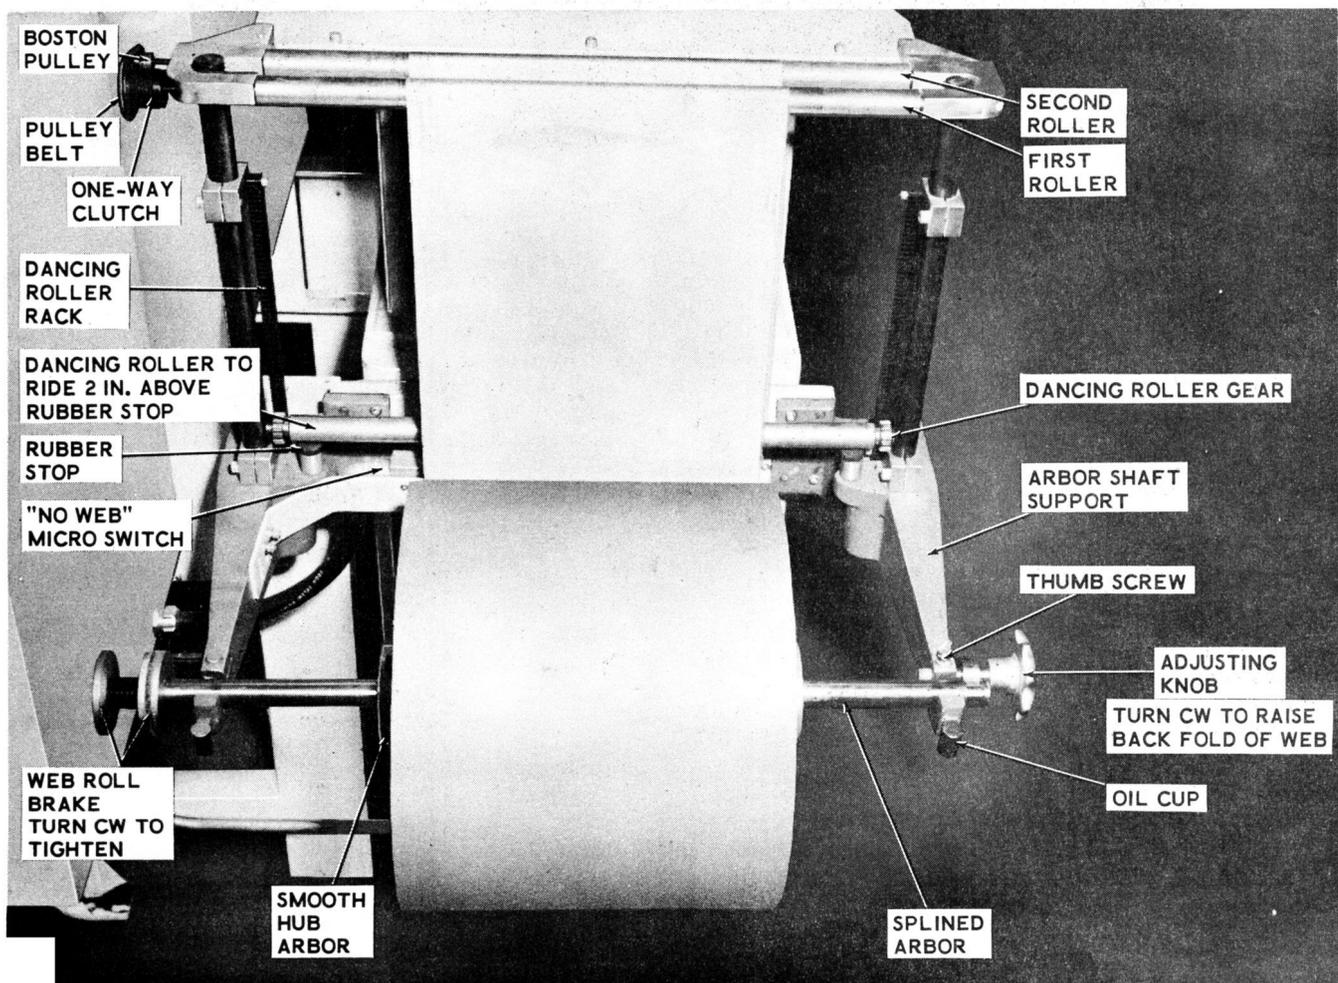
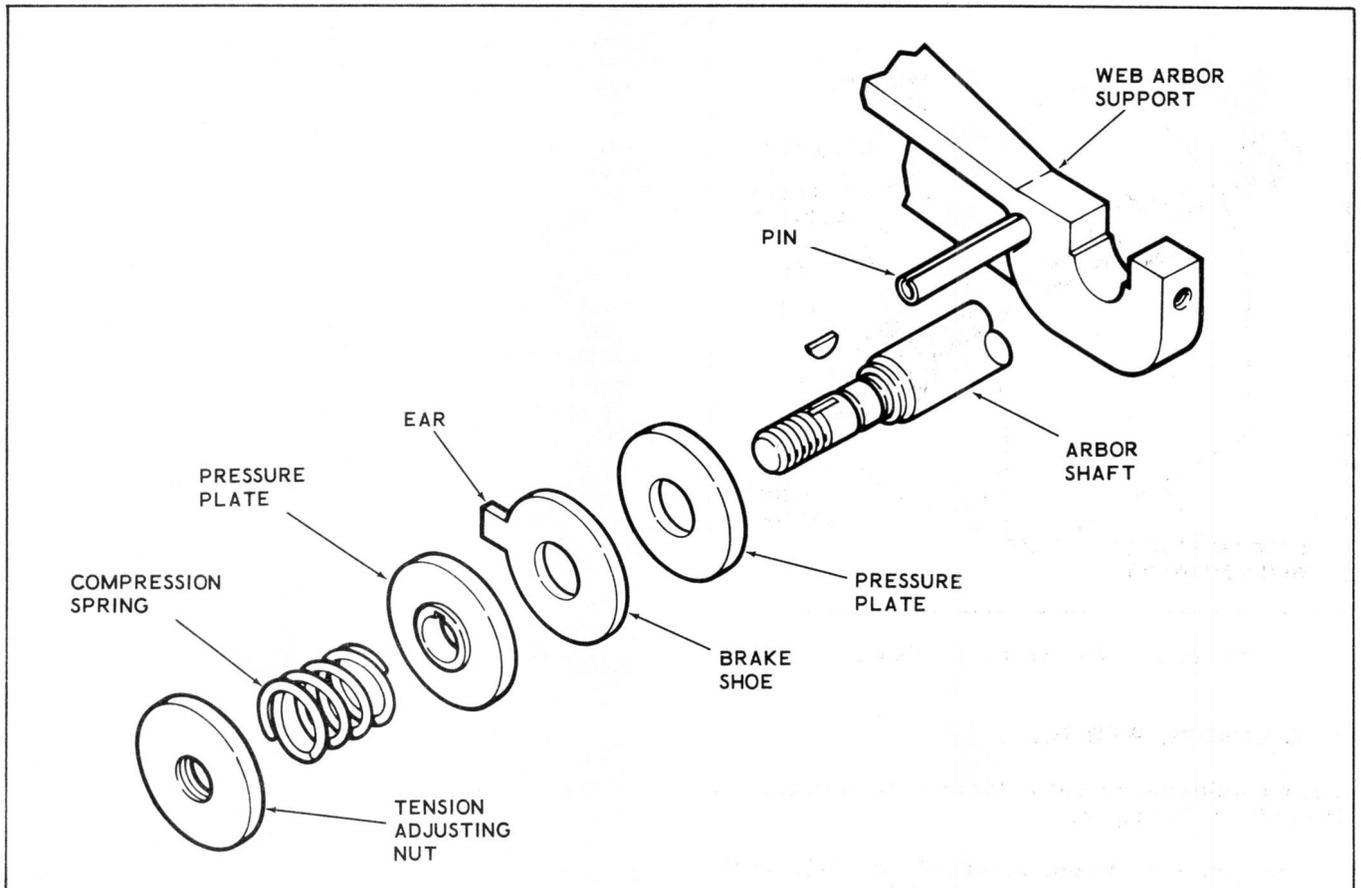
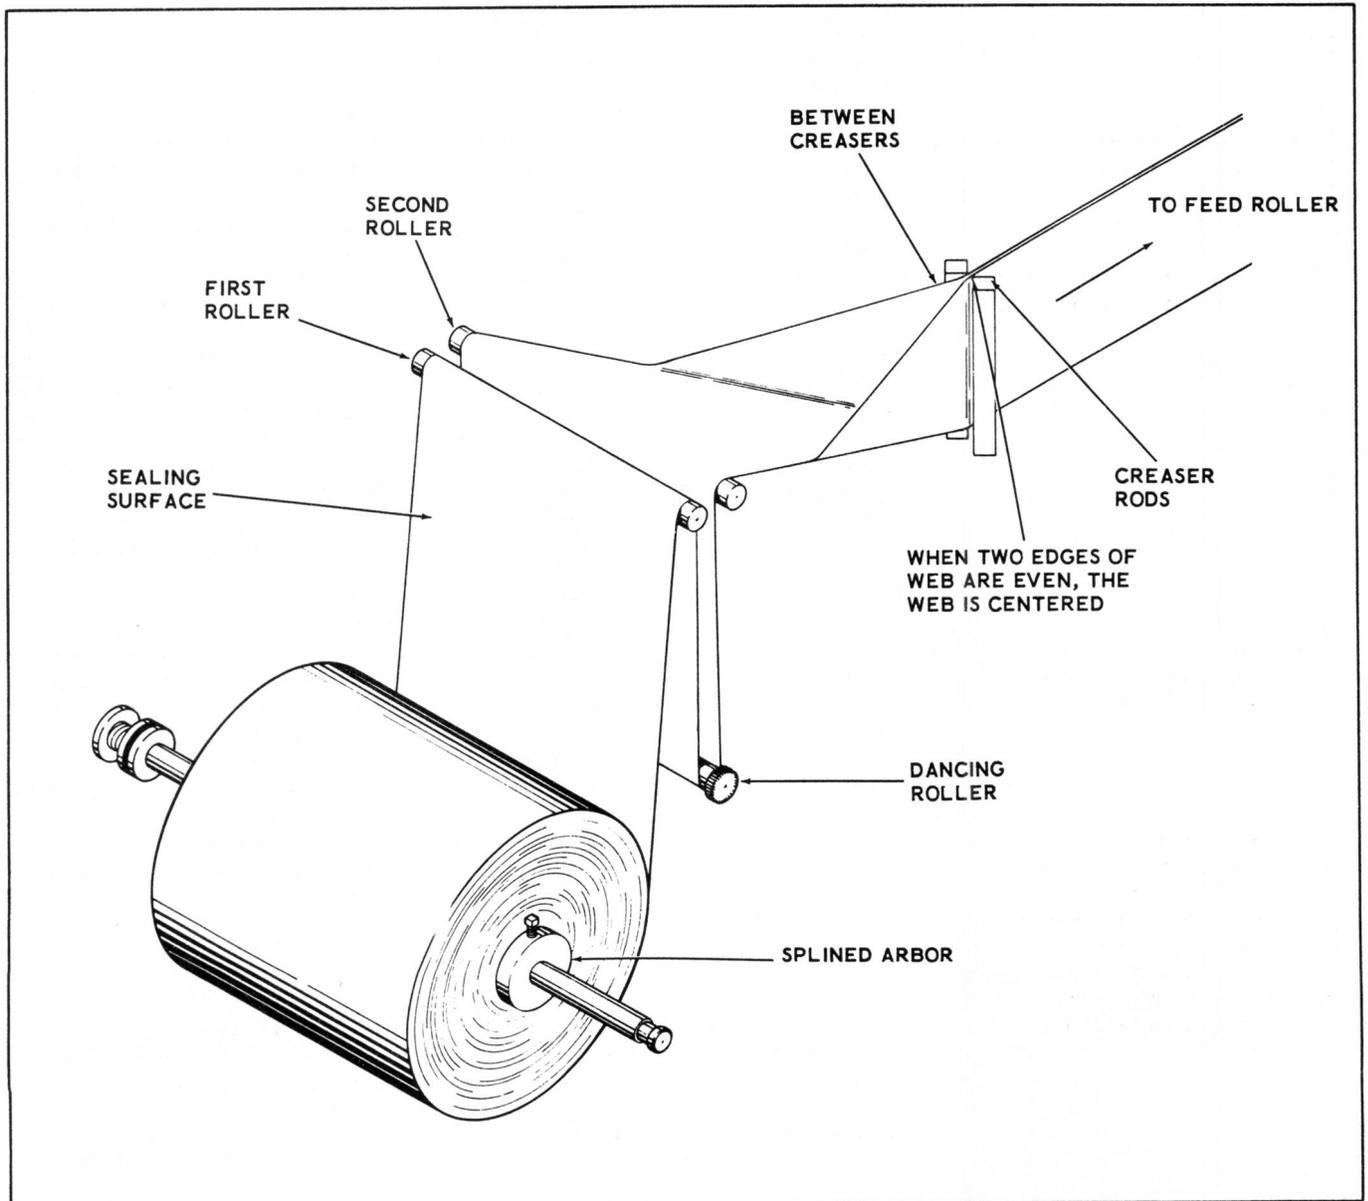

Figure 3-4. Web Tensioning
Figure 3-5. Web Roll Brake
Figure 3-7. Threading Web in Packager
The roll of web is secured to the arbor shaft (Figure 3-4) by two arbors. One arbor is smooth and the other is splined. Each arbor is tapered at one end to fit into a standard three inch web core and is secured to the arbor shaft by a square head setscrew. The arbor shaft is supported by two web arbor supports which act as bearings at the left end of the machine. The arbor shaft is held in the bearings of each web arbor support by its own weight. The arbor shaft rotates in
A web roll brake (Figure 3-4) is located at the left end of the arbor shaft to maintain the proper tension on the web by applying a braking action to the web roll. This brake (Figure 3-5) consists of two steel pressure plates keyed to the arbor shaft with a flat piece of brake material held between them. The arbor shaft is turned down at this end therefore, one of the pressure plates hits against the shoulder of the shaft. A compression spring is installed between the second pressure plate and a tension adjusting nut threaded
c. Loosen setscrew of smooth arbor and slide arbor shaft in arbors until web roll is approximately in center of shaft. Tighten setscrew of each arbor. Check that adjusting knob (Figure 3-4) is preset to approximately the middle of its adjusting range. Place arbor shaft with web roll attached, into bearings of web arbor supports.
d. Thread the web from under the roll upward over the first top roller (Figure 3-7) so that the sealing surface of the web is facing you as viewed from the end of the Packager. Continue threading the web by running it downward from the first top roller under the dancing roller and back upward over the second top roller, under the plow nose and through to the feed roll mechanism. Tighten feed roll mechanism to hold web.
e. Turn web roll brake (Figure 3-4) clockwise to apply braking pressure on the arbor shaft. Sufficient back pressure should be applied to keep the dancing roller about 2 inches above the rubber stops. The brake should be loosened (turn counterclockwise) as the roll diameter becomes smaller. After this initial adjustment, the brake tension should be checked and adjusted about every 15 minutes of running time.
f. Check the web for proper centering (Figure 3-7) after it leaves the plow assembly. Major centering of the web should be done by moving the web roll on the arbor shaft. Loosen the arbor setscrews and move web roll to the left to raise the back fold or to the right to raise the front fold. The adjusting knob (Figure 3-4) is used for fine centering of the web. Turn the adjusting knob clockwise to raise the back fold of the web or counterclockwise to raise the front fold. After the fine adjustment has been made, lock thumbscrew (Figure 3-4) to retain adjusting knob position.